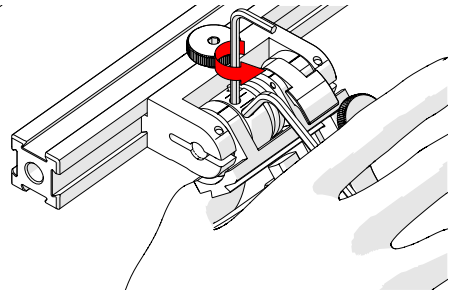

Fig. 144 - Press 3 mm hex wrench down
5. Lightly press the long arm of the 3 mm hex wrench down. Using the 2 mm hex wrench, loosen the force adjustment screw but do not remove it (*Fig. 144*).